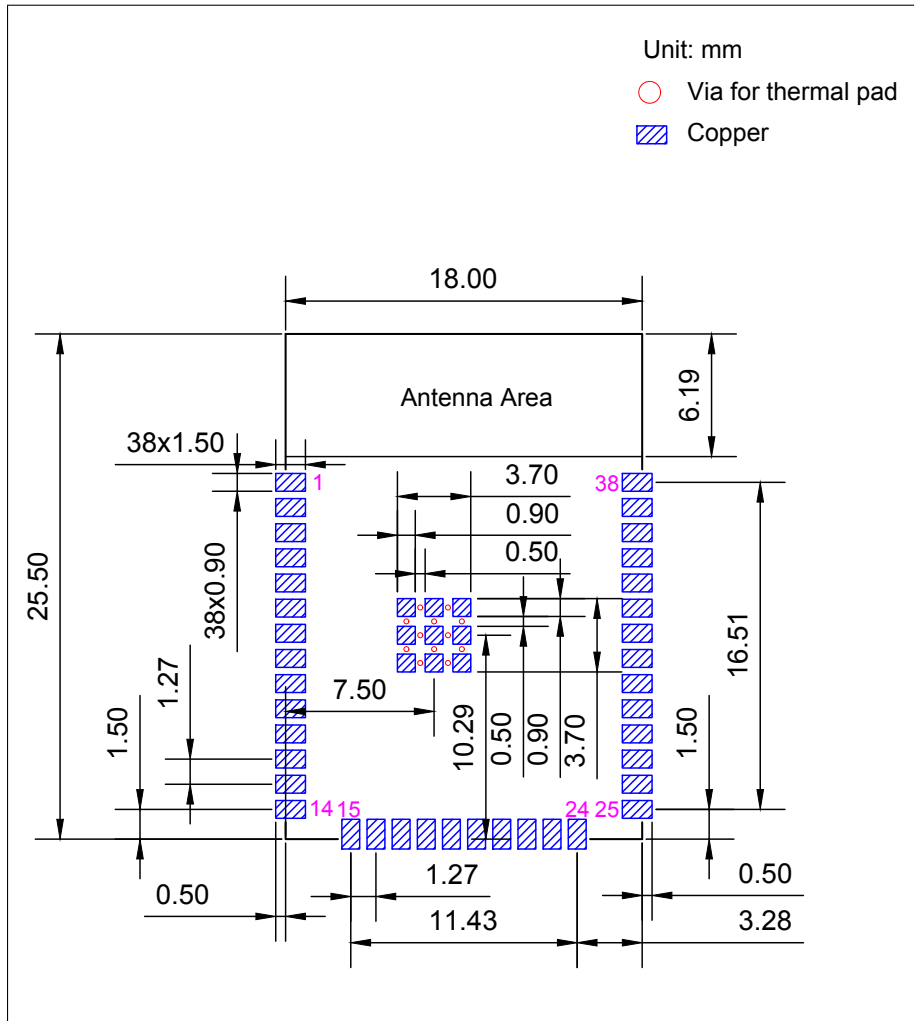

Figure 6: Recommended PCB Land Pattern of ESP32-SOLO-1
- Figures for recommended PCB land patterns with all the dimensions needed for PCB design. See Figure 6 *Recommended PCB Land Pattern of ESP32-SOLO-1*.
- Source files of recommended PCB land patterns to measure dimensions not covered in Figure 6. You can view the source files for ESP32-SOLO-1 with Autodesk Viewer.